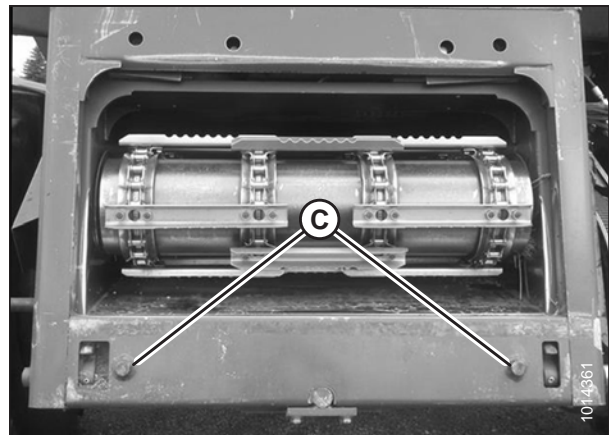

Figure 4.22: AGCO Group Alignment Pins
2. Start the engine and slowly approach the header until the feeder house is directly under the float module top cross member (A) and the alignment pins (C) (refer to Figure 4.22, page 272) on the feeder house are aligned with the holes (B) in the float module frame.